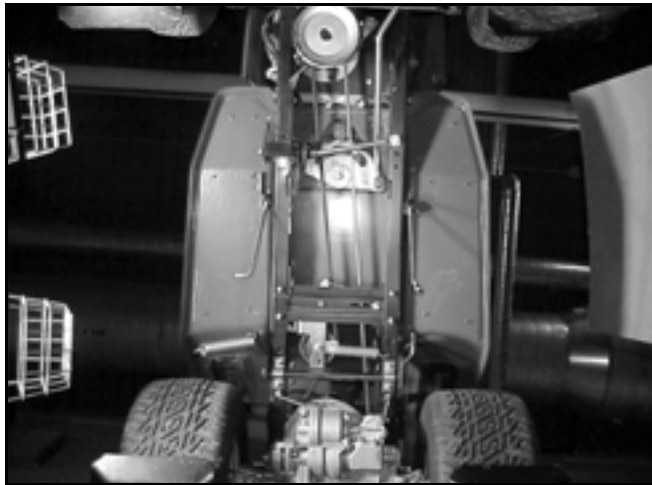

Figure 34
11. Recheck the routing of the belt (Figure 34).